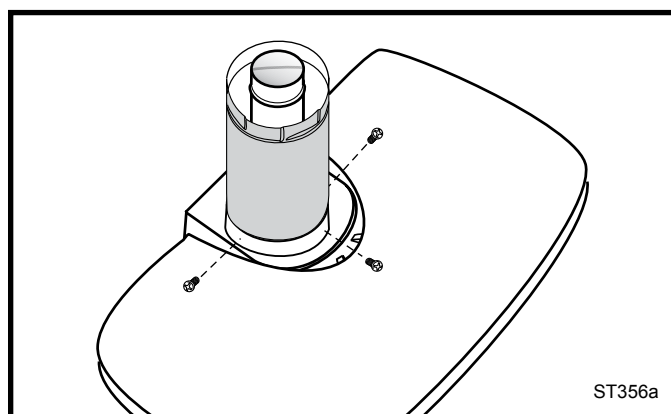

Figure 22 DuraVent - install outer adapter pipe.
2. Install the Outer Adapter Pipe. Apply a 1/4" bead of cement around the outside surface, about one inch from the crimped end. (Figure 22) Orient the vertical seam to the rear, and insert the crimped end of the outer pipe into the flue collar. Fasten with three sheet metal screws provided.